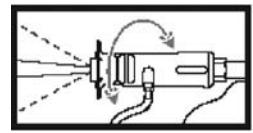

Figure 9
3. Twist nozzle cover to adjust spray pattern from jet to wide fan spray (Figure 9).